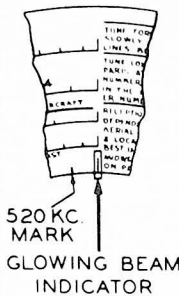

Fig. 6. Dial Calibration
- Turn the tuning condenser control until the indicator is on the 520 K.C. mark. See Fig. 6.